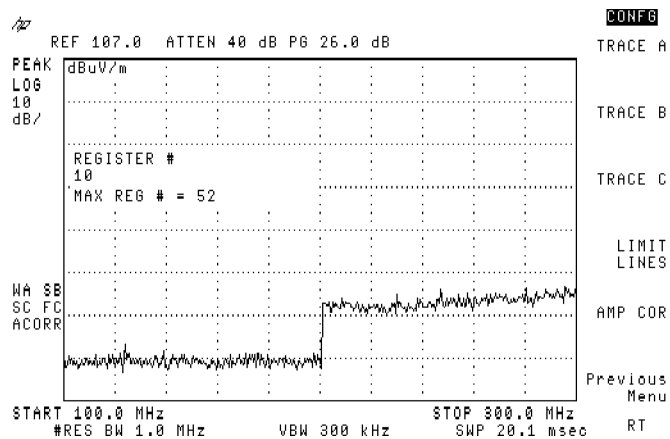

Figure 3-92. INTRNL TRACE Softkey Screen
5. Press 10, **ENTER** (same as the **Hz** key in the analyzer's lower-right corner) to save the transducer factors to internal register 10. See Figure 3-92.